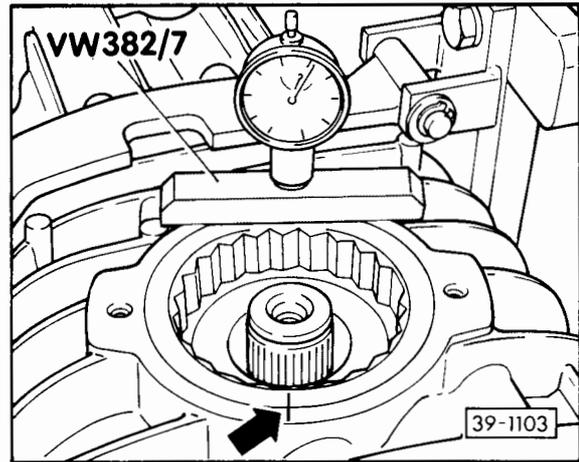

Fig. 3 Determining and marking position of adjusting ring
- Before removing, loosen left-hand final drive adjusting ring to relieve the preload on the gearbox housing. Mark position of adjusting ring beforehand – Fig. 3.
- Mark before removing – Fig. 3